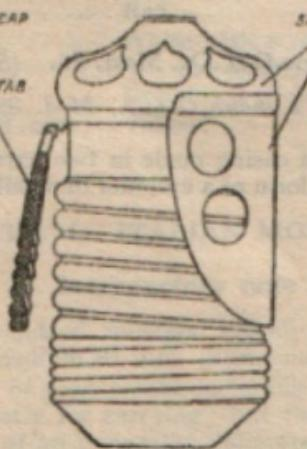

FIG. 16.—BREDA Mod. 35
26. Hand grenade Breda, Mod. 35. (See Fig. 16)